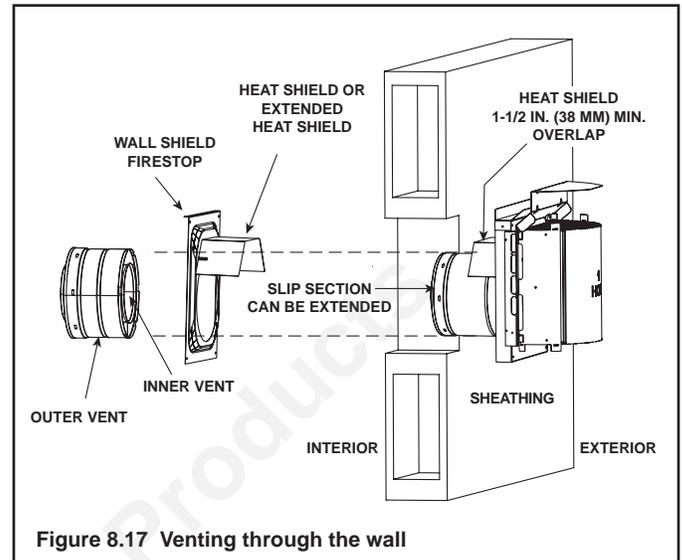

Figure 8.17 Venting through the wall
- **DO NOT** remove the heat shields attached to the wall shield firestop and the horizontal termination cap (shown in Figure 8.17).
There are two sections of the heat shield. One section is factory-attached to the wall shield firestop. The other section is factory-attached to the cap. See Figure 8.17.